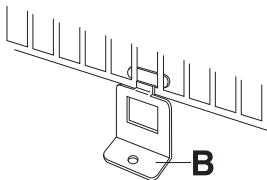

Fig.4
- Hang the heater on the two brackets fixed to the wall. Insert the bracket "B" (provided with appliance) in the back of the convector base as shown in fig. 4.